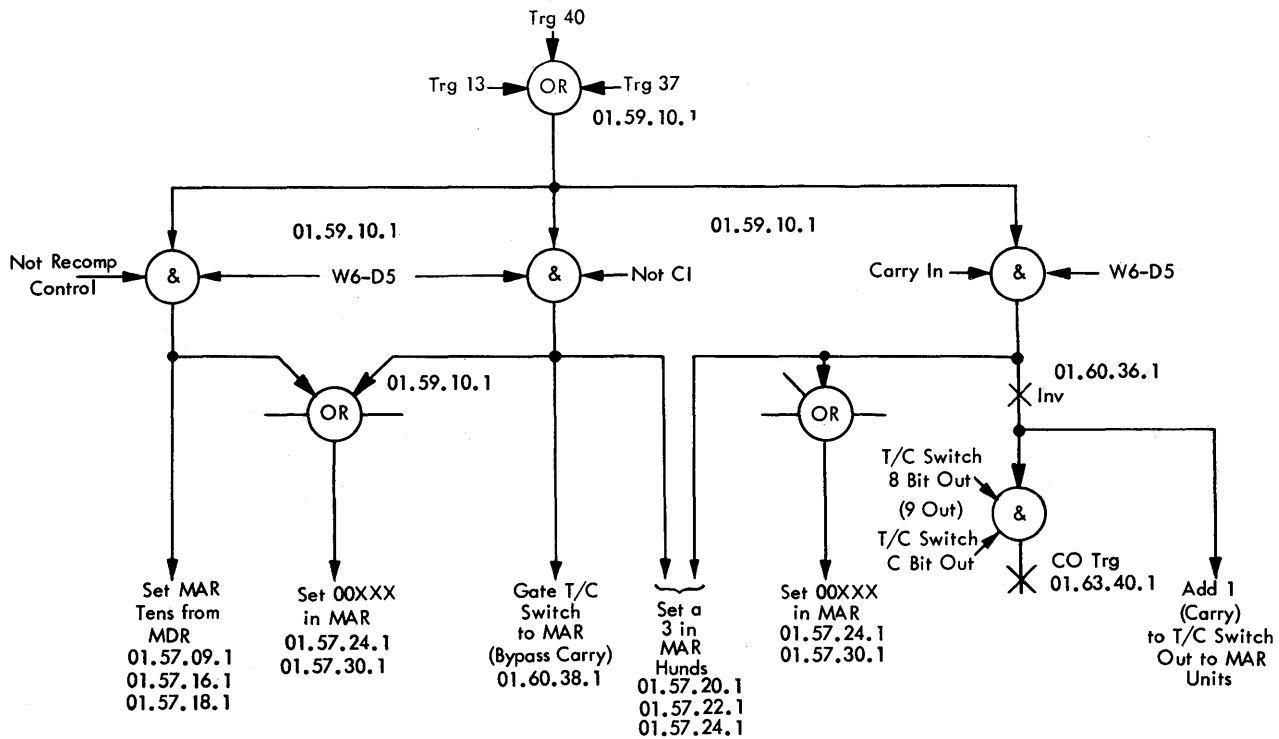

Figure 13-7. Set MAR Add Table Address
1. Develop and set add table address in MAR (see Figure 13-7).
This manufactured address with a "3" placed into the hundreds position of MAR (Figure 13-7) is used to read the 1-digit difference from the add table, in memory, Figure 13-1 to MDR (Trigger 13).